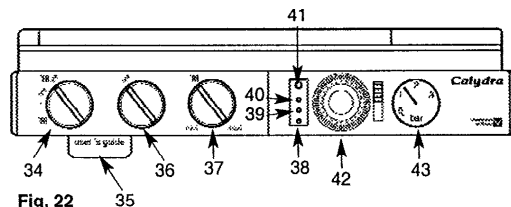

Fig. 22
- 1) Turn selector switch (34 fig. 22) to position . The green "power on" indicator  will light.
- 1) Turn selector switch (34 fig. 22) to position  . The green "power on" indicator  will light.
- 1) If heating is required without the need for TSS® hot water storage, turn the selector switch (34 fig. 22) to position . For example, this feature would be used if the house is to remain heated without anyone using the hot water.
Note: If the boiler has been turned off for some time the first attempt to light it may result in a lockout . If this happens press the reset button (41 fig. 22) and the boiler will light.
- 1) Turn the selector switch (34 fig. 22) to the off position .